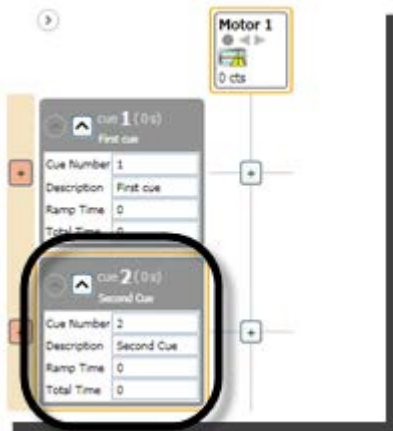

Figure 125
3. The newly created cue will appear in the **Cue Grid** (Figure 125).